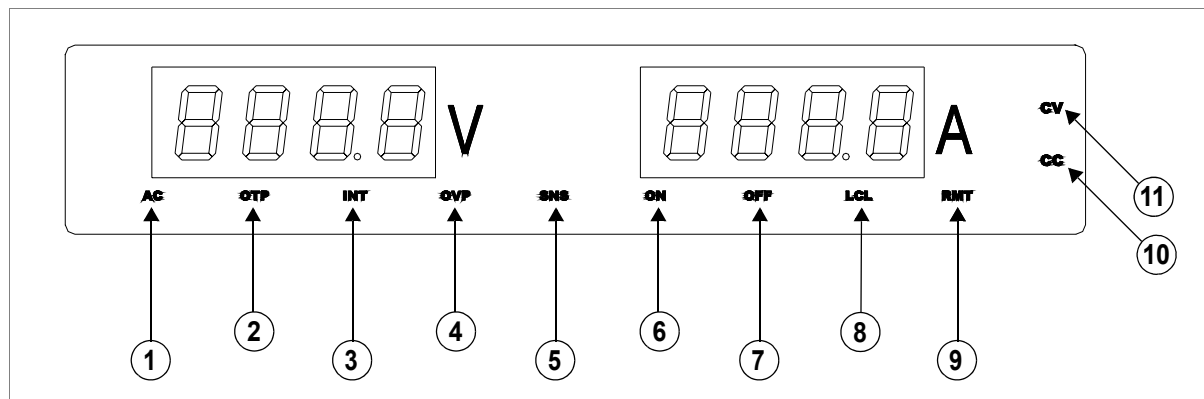

Figure 1.2 Front Panel Display, Status Annunciators
5. Front panel display. See Figure 1.2, on page 19 for details.